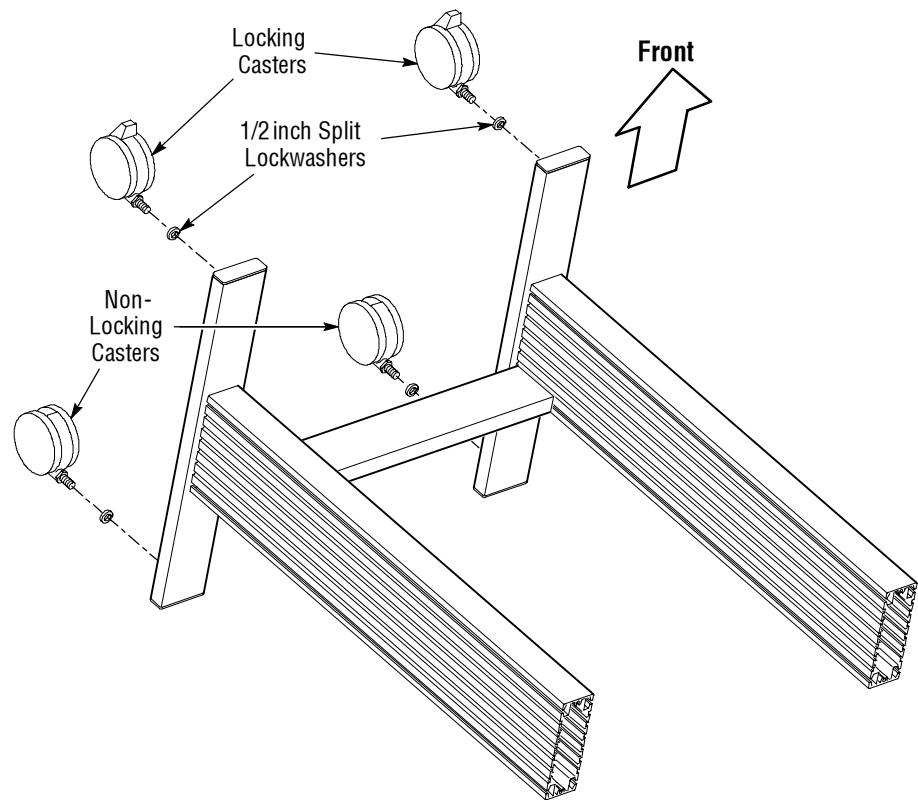

Figure 5: Installing the Casters
10. Tip the cart onto its back as shown in Figure 5, resting it on the work surface by the tops and backs of the leg assemblies.